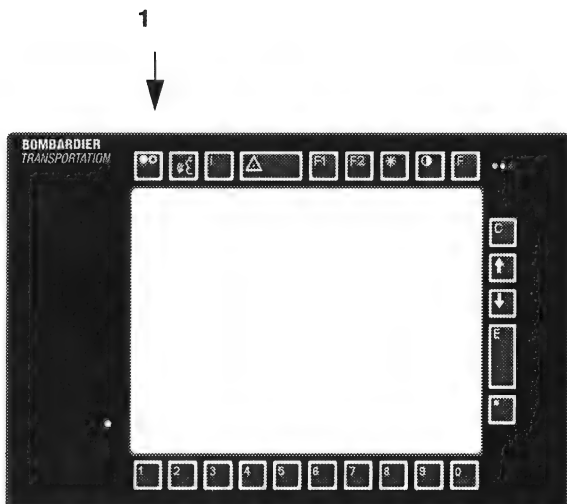

Figure B-66: Intelligent Display Unit (IDU)
Press the "ON/OFF" key to display the main menu (Figure B-66 on page 176, item 1).
Press the "ON/OFF" key again to switch off the IDU (Figure B-66 on page 176, item 1).